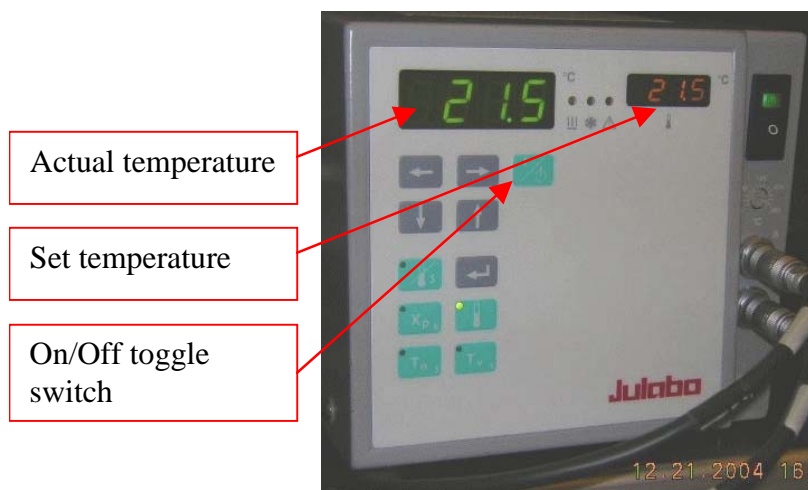

Figure 2-4: Environmental chamber temp controller
- ❖ Check that the environmental system is working and both the set temperature and measured temperature are 21.5°C (See Figure 2-4). If it is off press the green on button.